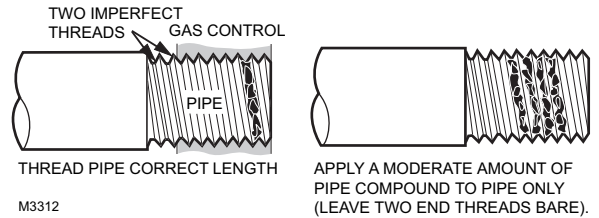

Fig. 12. Use moderate amount of pipe compound.
4. Apply a moderate amount of good quality pipe compound to pipe only; leave the two end threads bare. Do not use teflon tape. In LP installations, use a compound resistant to LP gas. See Fig. 12.